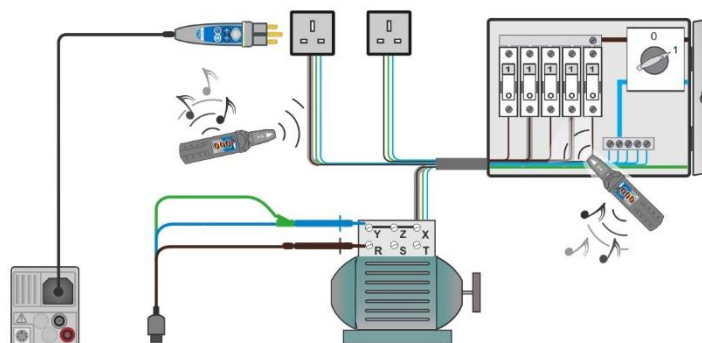
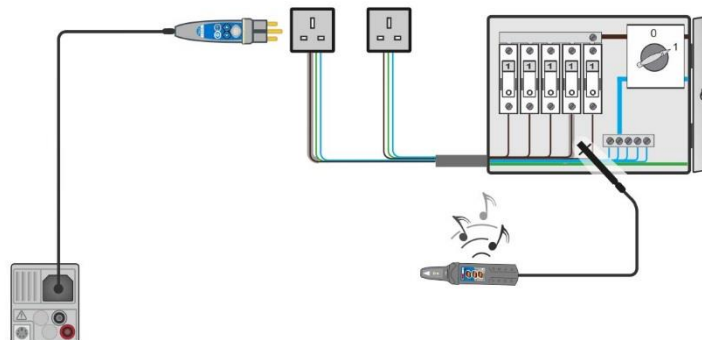

Figure 7.130: Tracing wires under walls and in cabinets
Figure 7.131: Locating individual fuses
- › Connect test leads to the tested object (see **Figure 7.130** and **Figure 7.131**).